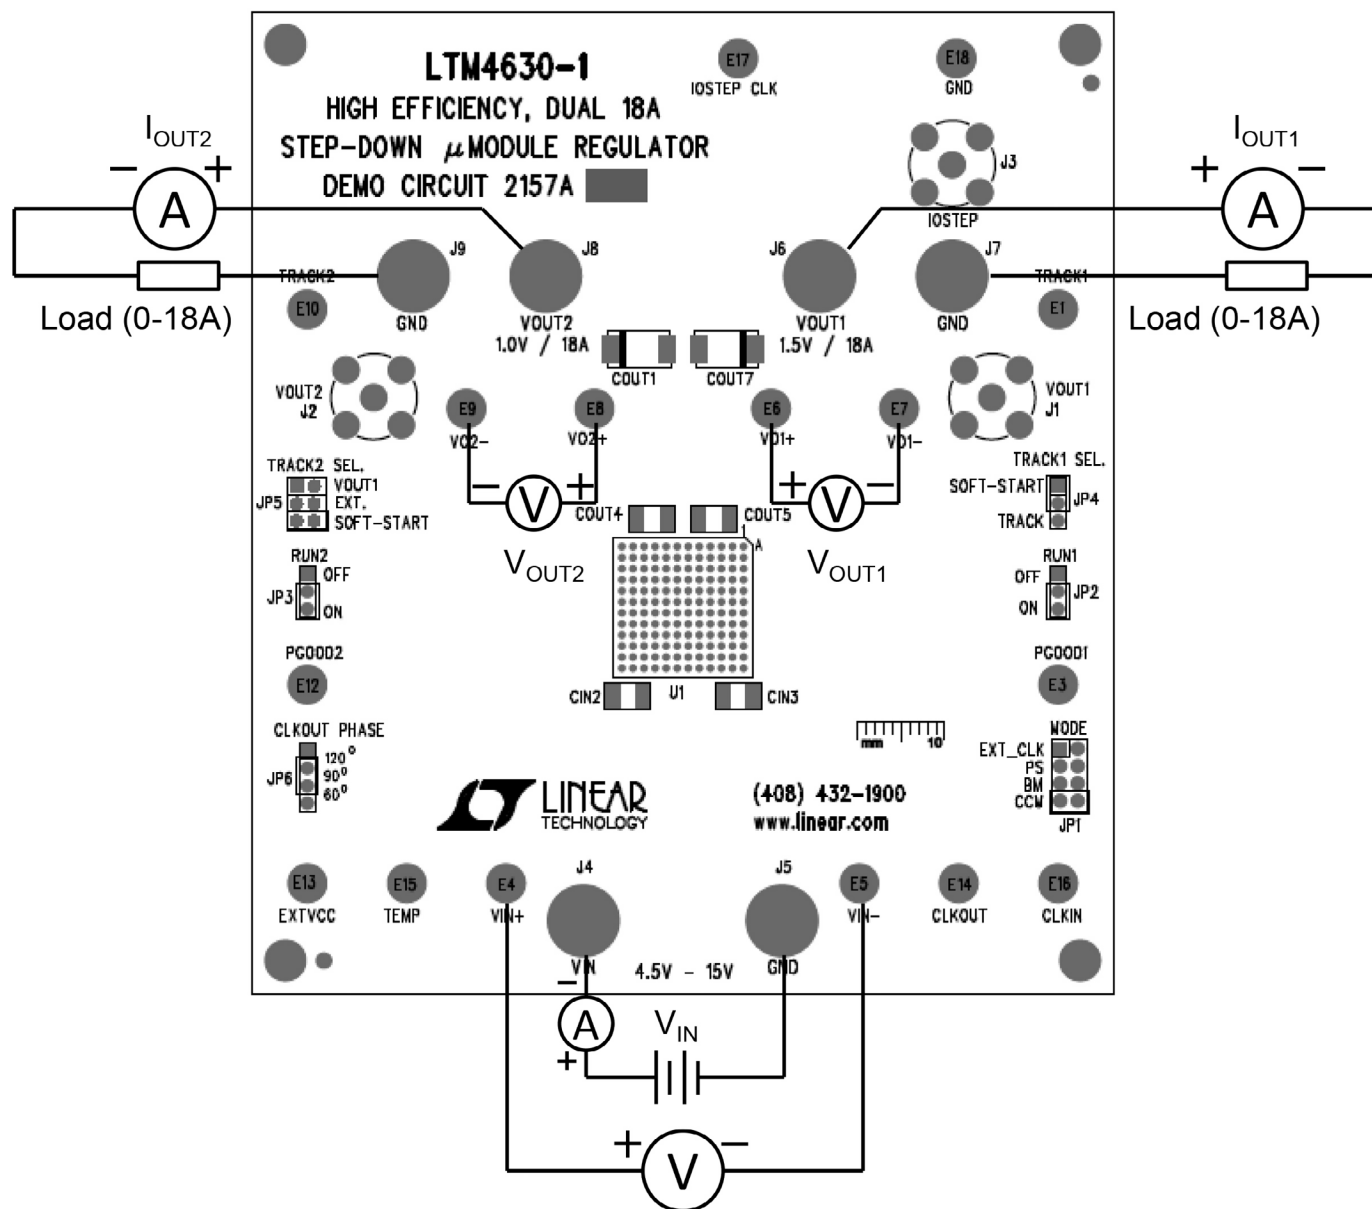

Figure 1. Test Setup of DC2157A
Demonstration circuit DC2157A is easy to set up to evaluate the performance of the LTM4630-1. Please refer to Figure 1 for proper measurement setup and follow the procedure below:
2. With power off, connect the input power supply, load and meters as shown in Figure 1. Preset the load to 0A and V_{IN} supply to 12V.